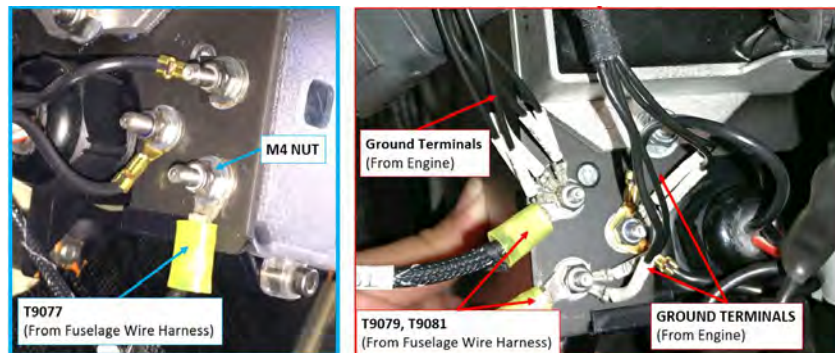

FIGURE 17-53
10. Secure the ring terminals to the ground studs with M4 nuts and washers. Do not install more than five rings on any single ground stud. See Figure 17-53.